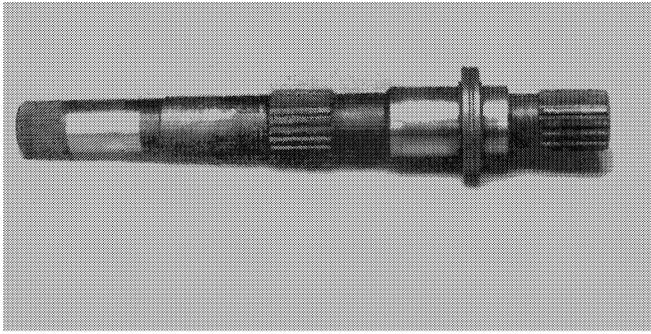
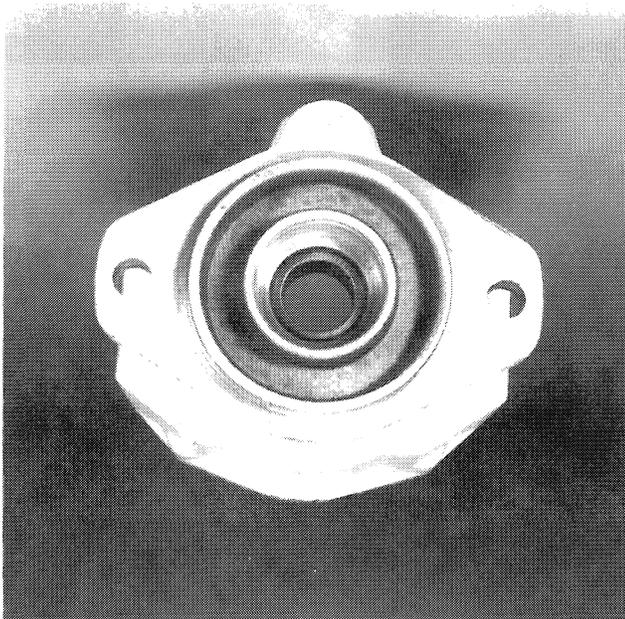

FIGURE 4-12
FIGURE 4-13
- c. The shaft is shown in Figure 4-12 as a complete assembly after removal. Figure 4-13 shows the pump housing after shaft removal.